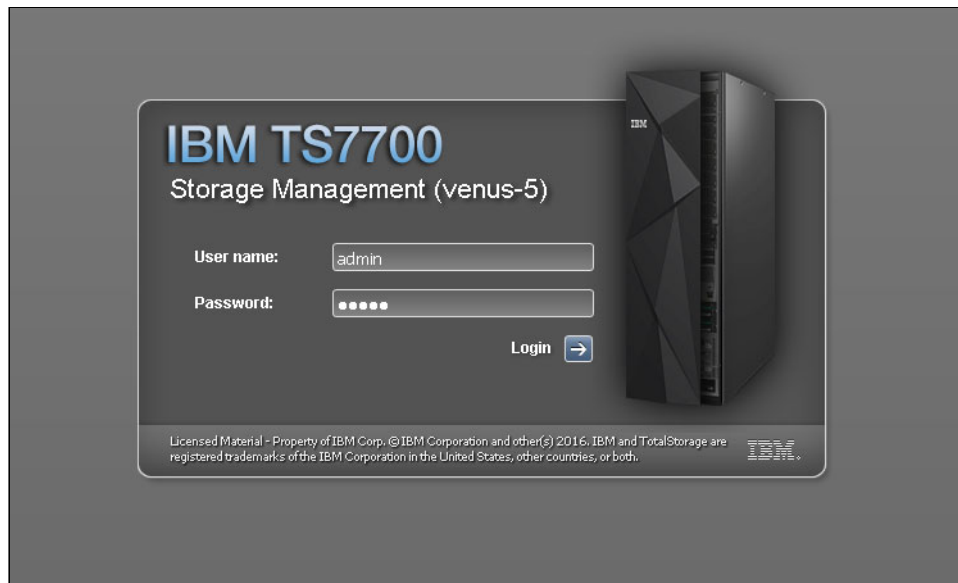

Figure 9-3 TS7700 MI login
5. The login window for the MI displays as shown in Figure 9-3. Enter the default login name as `admin` and the default password as `admin`.